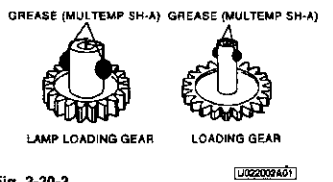

Fig. 2-20-2
- 1 Apply GREASE (MULTEMP SH-A) [859D055080] to the area specified in Fig. 2-20-2 on the new LAMP LOADING GEAR.